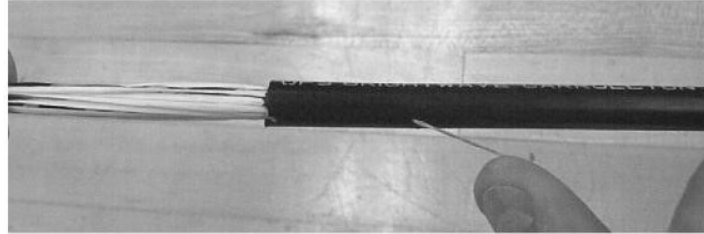

Figure 26 . Pull the ripcord to open the outer cable sheath#
5.13 Locate and pull each ripcord to the ring cut (Figure 26). Sometimes a small starter slit is needed to start the ripcord. If desired, wrap the ripcord around a pair of pliers to grip the ripcord. Remove the outer cable sheath.